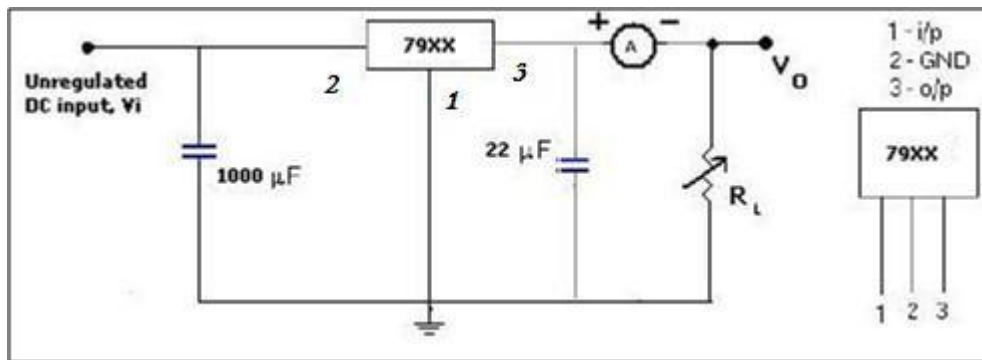

Figure.2 Fixed Negative Voltage Regulator
1. Connect the circuit diagram as shown in figure.2.